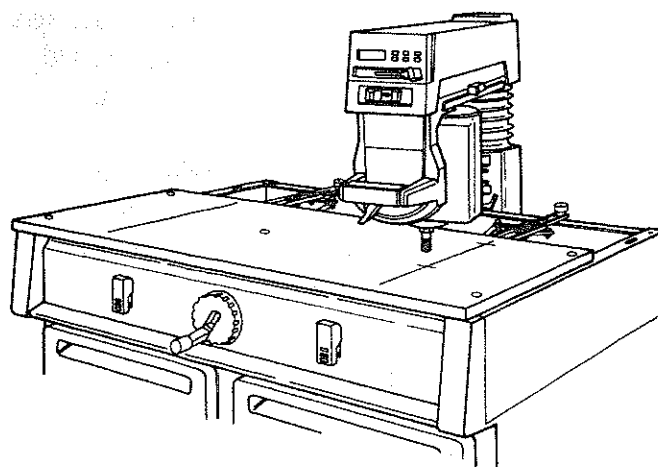

Fig. 99
4. Turn the *motor* until the *arbor shaft* is pointing straight down toward the *table*. (Figure 99)
6. Draw two lines on the *front table*, over the *table rails*. (Figure 99)